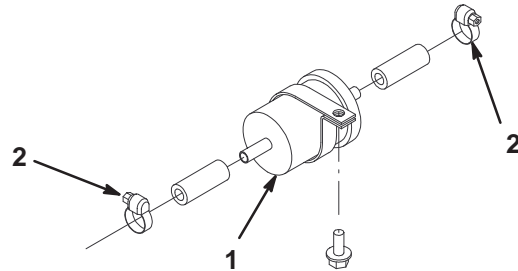

Figure 45
3. Loosen the hose clamps at both ends of the filter (Fig. 45) and pull the fuel lines off of the filter.